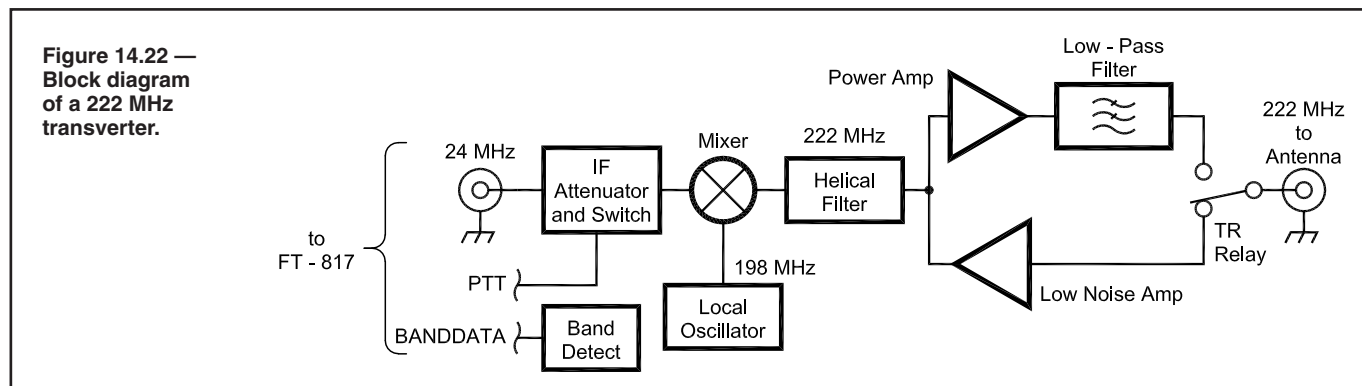

Figure 14.22 — Block diagram of a 222 MHz transverter.
In Figure 14.22, the transceiver uses only a single *bilateral* mixer that converts signals flowing in either direction as transmit or receive. This allows the IF transceiver to operate as it normally does, with its internal transmit-receive (TR) switching routing signals. In the case of the 222 MHz transceiver, it is operating on the 24 MHz band. The transceiver output power must be attenuated or turned down to an acceptable level to avoid damaging the transverter's input circuits.
In the 222 MHz transverter of Figure 14.22, the mixer combines input signals with a 198 MHz local oscillator. To transmit, a 24-MHz signal is applied at the IF port from the transceiver; the sum frequency is 222 MHz, which is amplified and sent to the antenna. To receive, 222 MHz signals from the antenna combine with the local oscillator and the difference frequency, 24 MHz, is sent to the IF port on the 12 meter band.
Assuming your transceiver can be set to output $\frac{1}{2}$ W or less, perhaps through a dedicated transverter output port, ordinary $\frac{1}{4}$ W resistors can be used as an input attenuator which may be fixed or variable. Be sure to test your attenuator design before using it between the transceiver and transverter. In the 222 MHz transverter shown in Figure 14.22, two attenuators are used in series, one fixed and one variable. PIN diodes are used to bypass the variable attenuator on receive, but a smaller fixed attenuator is left in the line to protect the mixer in case of a switching failure.